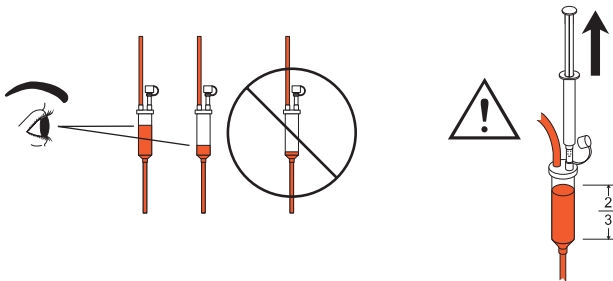

Figure 5—Monitoring Fluid Level
- Monitor the fluid level in the bubble trap frequently. Bubbles released during heating are captured in the trap. Do not allow the bubble trap to go below one-quarter (1/4) full. Air can be removed from the bubble trap by inserting a sterile syringe into the Manual Air Eliminator (see figure 2, page 3) and withdrawing air until the trap is two-thirds (2/3) full. See figure 5 below.